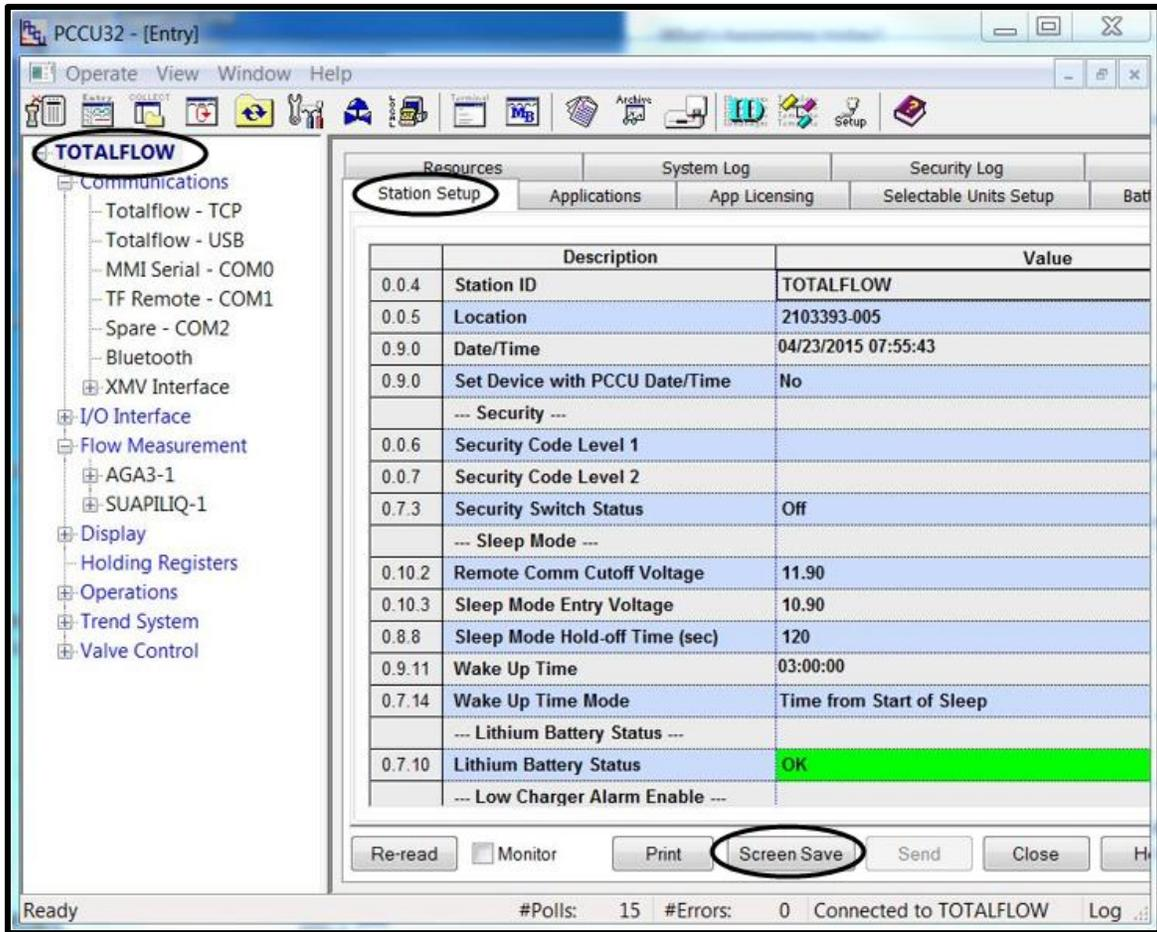

Figure 9: Station Setup screen
1. In PCCU Entry mode, select **Station Setup** (Figure 9)